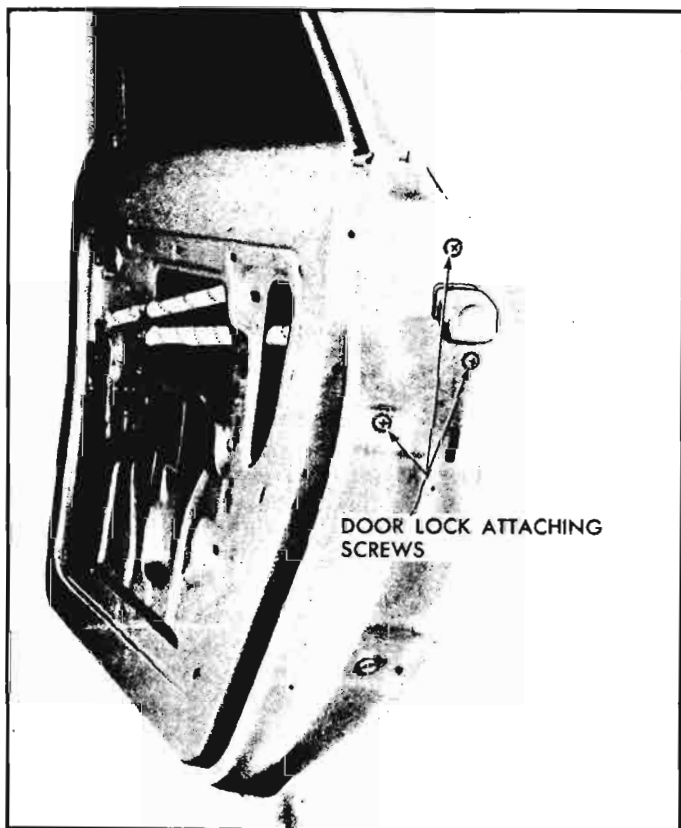

Fig. 10-66—Rear Door Lock Attachment
4. Remove door lock attaching screws and remove lock through inner panel access hole (see fig. 10-66).